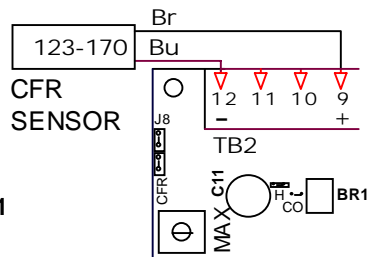

Figure 1
1. Constant Feed Rate (CFR): A Rodix vibration sensor P/N 123-170 can be added to allow the control to regulate the vibration level of a vibratory feeder. The regulation provides a constant feed rate of parts to the machine process. Activating the “CFR” program converts the 4-20mA speed-control input feature to the CFR input feature. See the “Jumper Programming Chart” for programming details. The CFR sensor attaches to the feeder and its connections are shown in Figure 1. For more information about the CFR feature, call Rodix or download the CFR application note.